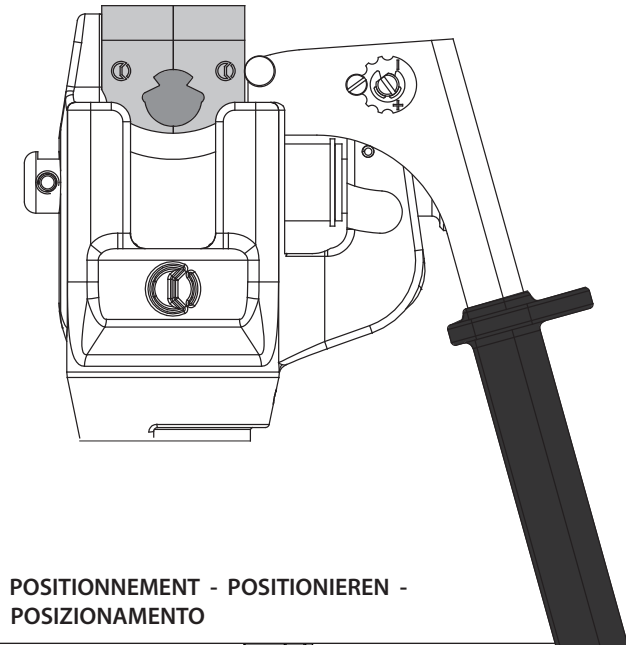
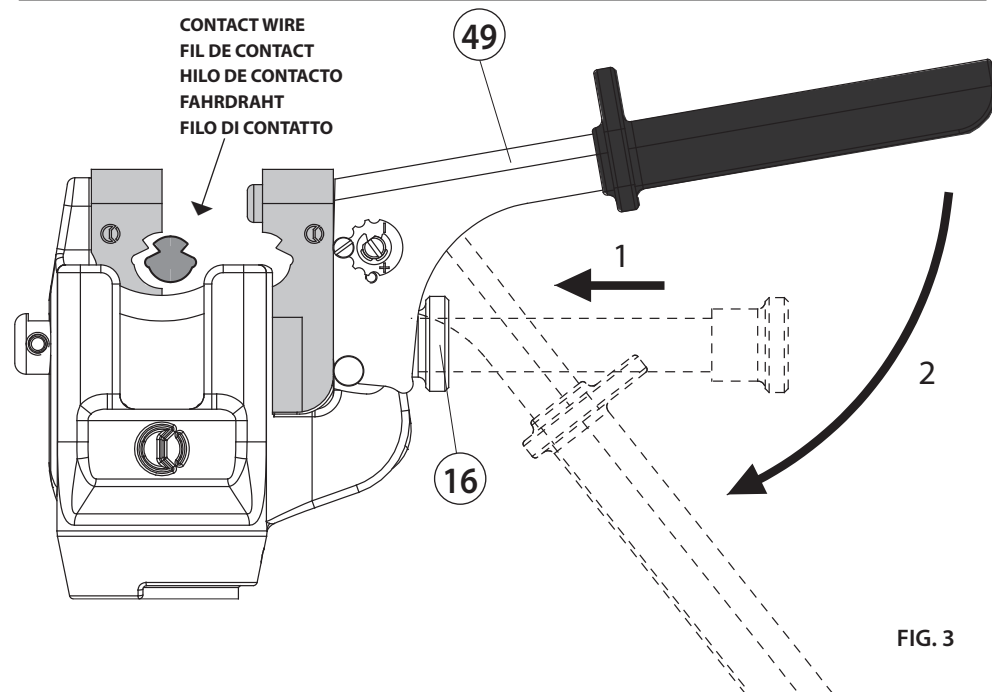

FIG. 4 POSITIONING - POSITIONNEMENT - POSITIONIEREN - COLOCACION - POSIZIONAMENTO
FIG. 3
- Position the conductor inside the die set so that the blade (15) lines up with the desired cutting point.
- Close the die set (see Fig. 3) by moving the locking handle (49) towards the tool body, until automatically 'locked' in position and securely clamping the wire/conductor (see Fig. 4).